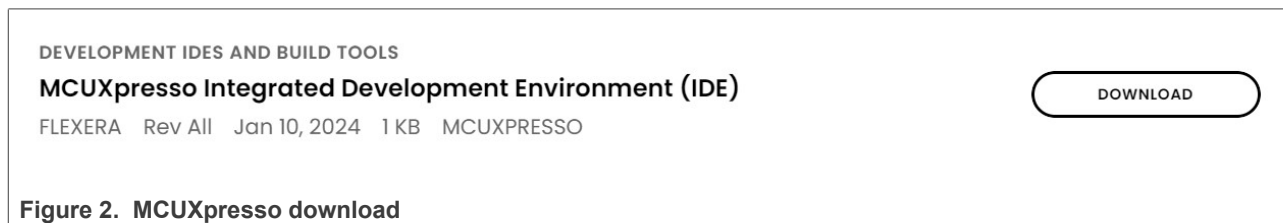

Figure 2. MCUXpresso download
2. Scroll down to the section shown in Figure 2 and click the "DOWNLOAD" button